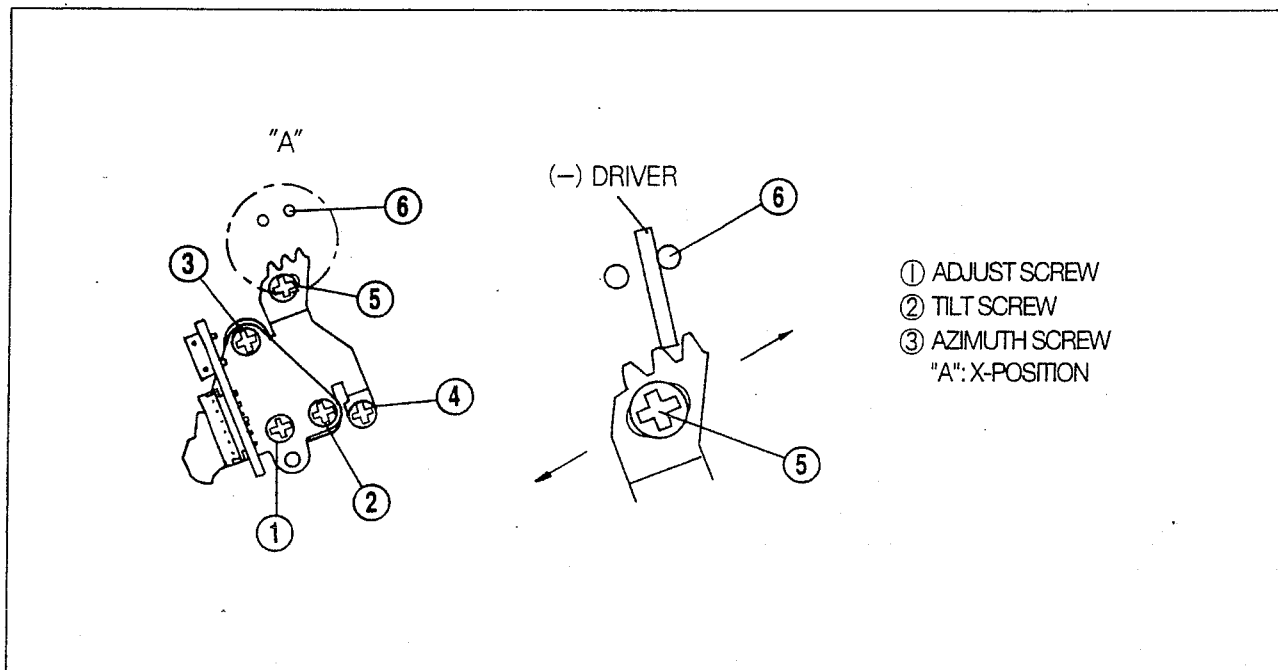
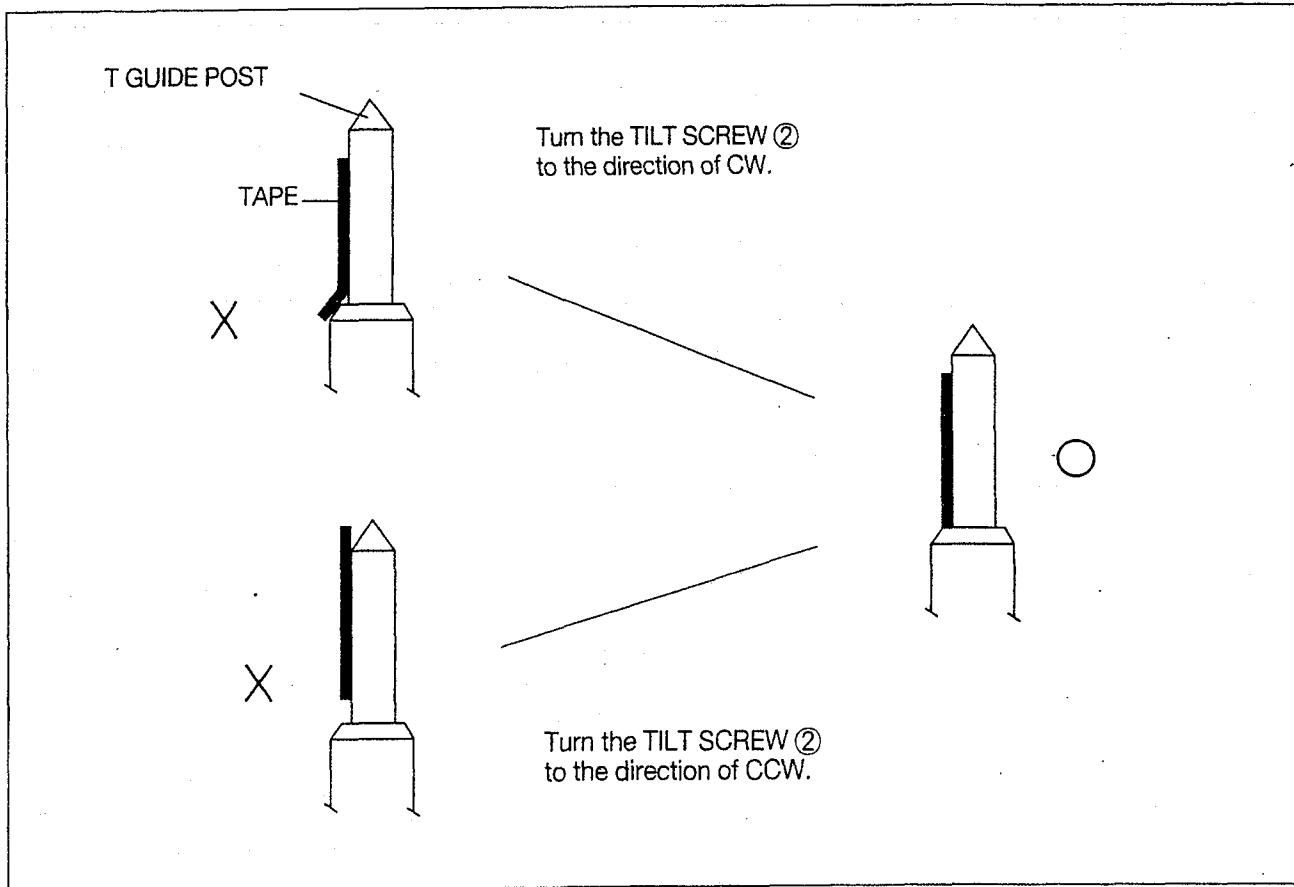
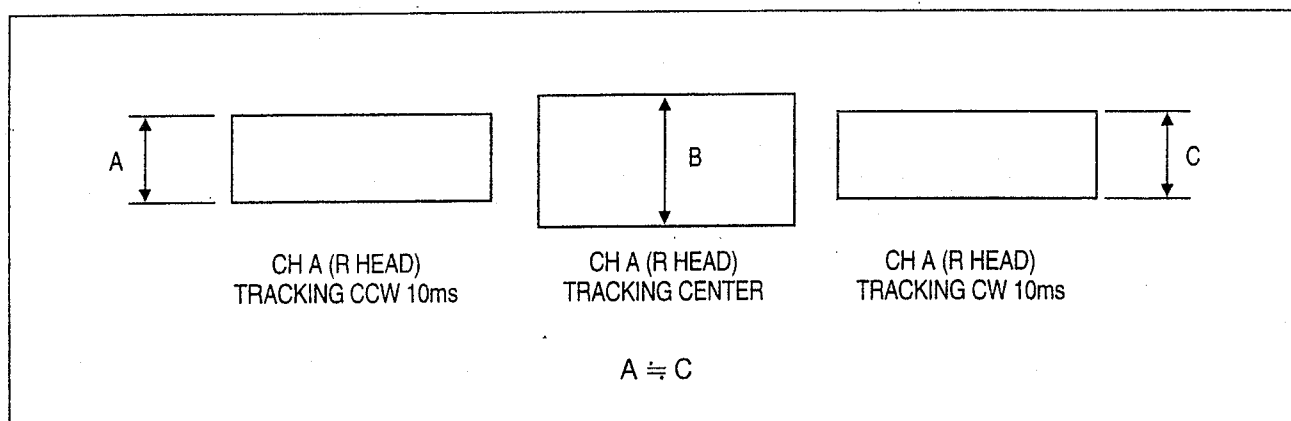

Fig. 5-2
Fig. 5-3
Fig. 5-12
B. If the running state is extraordinary, adjust the TILT SCREW (refer to Fig. 5-2 ②) to obtain the running of tape normal as shown in Fig. 5-3.
- Release the ④, ⑤ screw of the AC HEAD in Fig.5-2 about 90-120 degrees.
- Turn the AC HEAD TOT AS to obtain maximum ENVELOPE waveform by using the (-) driver as shown in Fig. 5-2.
B. Adjust the AUDIO output to be maximum by turning of AC HEAD AZIMUTH SCREW (refer to Fig. 5-2 ③).
C. Turn the AC HEAD TOT AS by using (-) driver in the same method as Fig. 5-2 in order that the ENVELOPE waveform is as shown in Fig. 5-12 when the TRACKING VR is turned to CW or CCW.